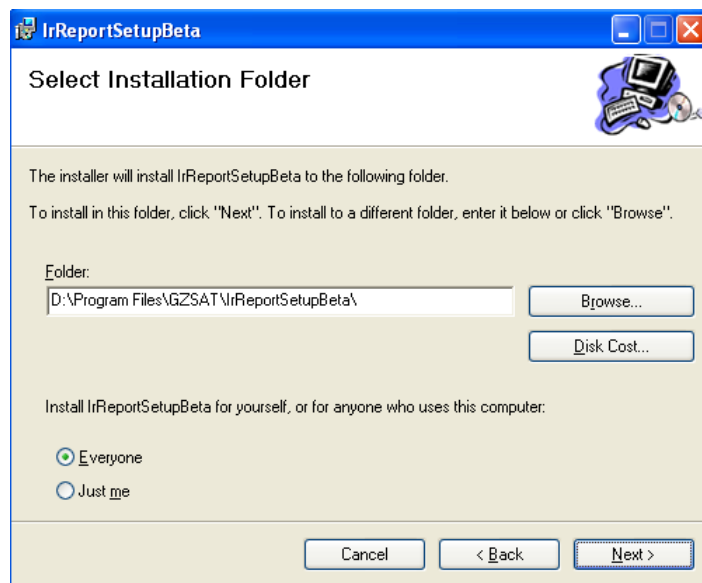

Fig.1.2.3
- Choose an installation hard drive and file path by clicking the Browse button or use the default driver and file path (see Fig. 1.2.3);